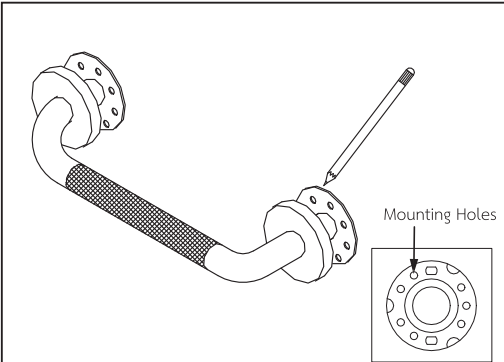

Fig. 3
10. Securely tighten all mounting screws with Phillips head screwdriver. (HAND TIGHTEN ONLY) (fig 3).